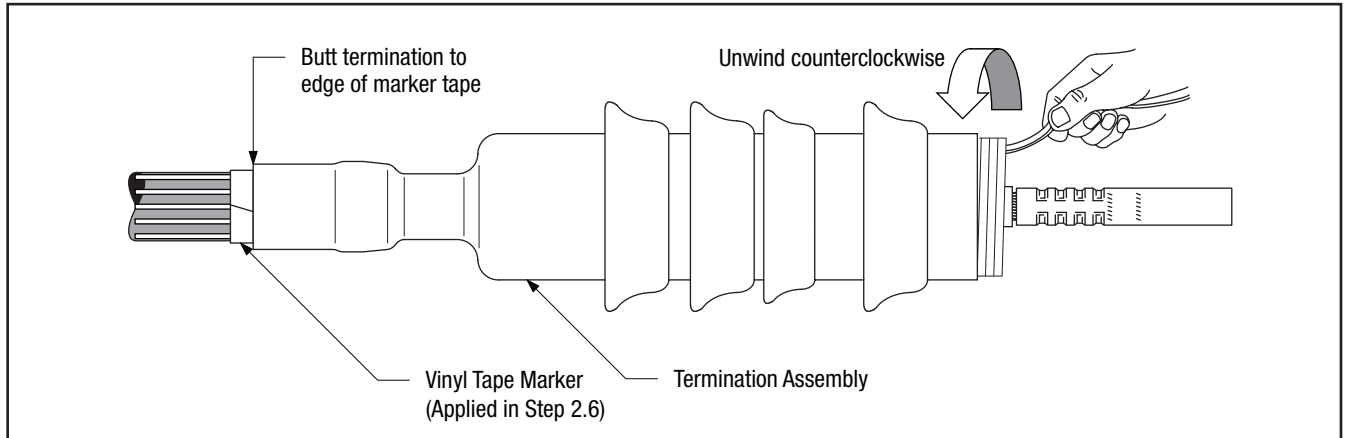

Figure 5
- 5.1 Slide the termination body onto the cable and remove core. Make sure the termination body (not the core) is butted up to the edge of the vinyl tape marker previously applied (Figure 5). Pull the core while unwinding, counter-clockwise, starting with the loose end (Figure 5). Be sure to alternate the pulling and unwinding actions (pull-unwind-pull-unwind-etc.) to help prevent the core material from binding up as the core is being removed.